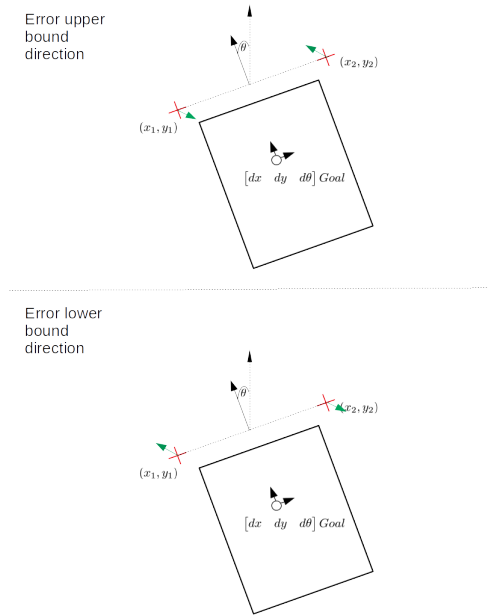

Figure 1.10: Error Bounds
- The upper bound and lower bound of errors were defined according to Figure 1.10 . The green arrows represent the vector in which direction the error should propagate for it to be the upper or lower bounds of the error.